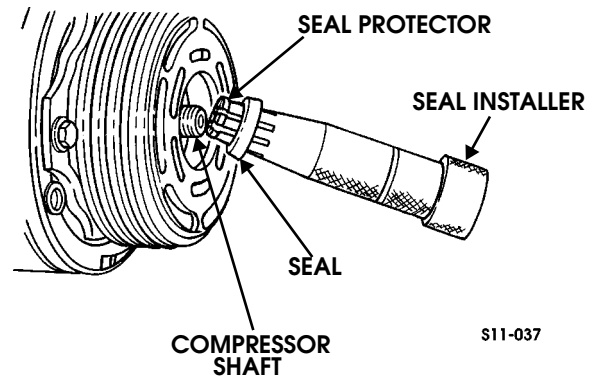

Figure 11-68: Seal Installer
3. Dip new seal in clean PAG oil and assemble seal onto seal installer by turning handle clockwise. The stamped steel case side of the lip seal must be engaged with knurled tangs of installer so that the flared-out side of lip seal is facing and installed towards the compressor. Install seal protector in the seal lip and place over the compressor shaft, and push the seal in place with a rotary motion, or place the seal protector over end of compressor shaft, and slide the new seal onto the shaft with a rotary motion until it stops. Take care not to dislodge the O-ring. Be sure the seal makes good contact with the O-ring. Disengage the installer from the seal and remove the installer and the seal protector (Figure 11-68).